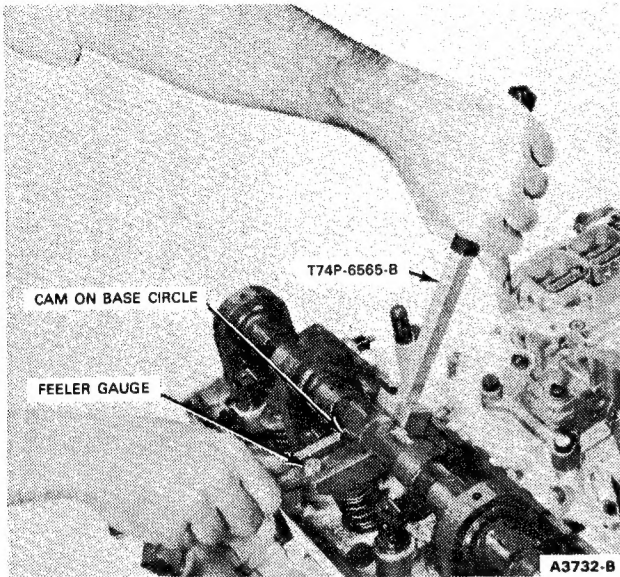

FIG. 7 Checking Hydraulic Valve Lash Adjuster
1. Position the camshaft so that the base circle of the lobe is facing the cam follower of the valve to be checked (Fig. 7).
2. Using the tool shown in Fig. 7, slowly apply pressure to the cam follower until the lash adjuster is completely collapsed. Hold the follower in this position and insert the proper size feeler gauge between the base circle of the cam and the follower.